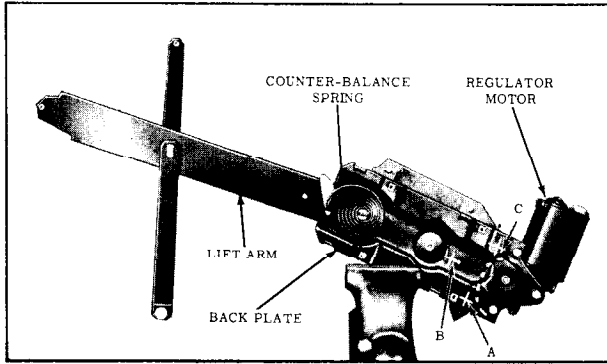

Fig. 15-42 Back Door Electric Window Regulator
- Place regulator and motor assembly in a vise. (Fig. 15-42) Drill a 1/4" hole through back plate and sector at location indicated at either A, B, or C (Fig. 15-42) depending on position of lift arm.
4. Remove motor attaching bolts (Fig. 15-42) and remove motor from regulator.